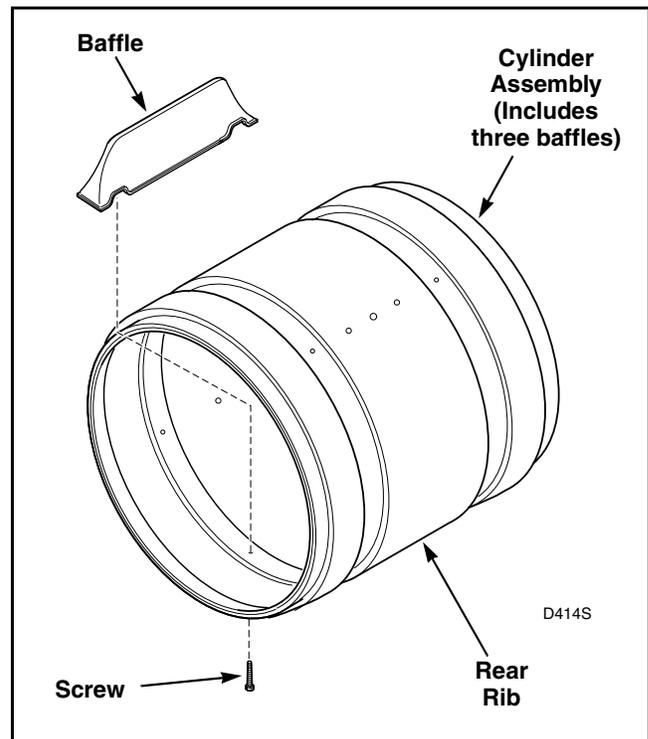

Figure 34
NOTE: When reinstalling belt, be sure belt is properly installed on motor and idler pulleys, and is on the correct side of the idler lever. Refer to *Figure 25*. Belt must be positioned around center section of cylinder approximately three inches ahead of rear rib on cylinder. Refer to *Figure 34*. After installing belt, manually rotate cylinder counterclockwise to check that belt is properly aligned.
NOTE: When reinstalling belt, be sure belt is properly installed on motor and idler pulleys, and is on the correct side of the idler lever. Refer to *Figure 25*. Belt must be positioned around center section of cylinder approximately three inches ahead of rear rib on cylinder, with the ribbed surface of the belt against the cylinder. Refer to *Figure 34*. After installing belt, manually rotate cylinder counterclockwise to check that belt is properly aligned.
- i. Baffles – Remove screws holding baffles to cylinder. Refer to *Figure 34*.
NOTE: When reinstalling belt, be sure belt is properly installed on motor and idler pulleys and is on the correct side of the idler pulleys. Refer to *Figure 25*. Belt must be positioned around center section of cylinder approximately three inches ahead of rear rib on cylinder with the ribbed surface of the belt against cylinder. Refer to *Figure 34*. After installing belt, manually rotate cylinder counterclockwise to check that belt is properly aligned.
NOTE: When reinstalling belt, be sure belt is properly installed on motor and idler pulleys and is on the correct side of the idler pulleys. Refer to *Figure 25*. Belt must be positioned around cylinder approximately three inches ahead of rear rib on cylinder with the ribbed surface of the belt against the cylinder. Refer to *Figure 34*. After installing belt, manually rotate cylinder counterclockwise to check that belt is properly aligned.